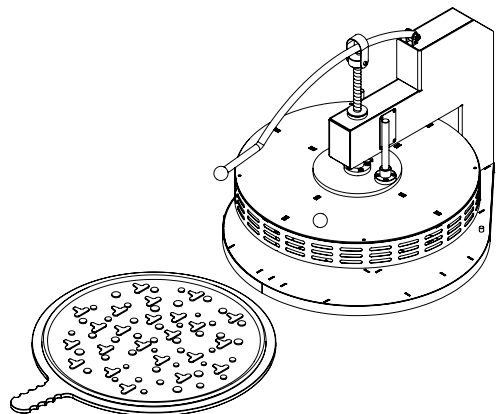

Figure 2
- As seen in **Figure 2** take the Pizza Tray out of your Machine, put your pizza on it and place the Pizza Tray back in the Machine.